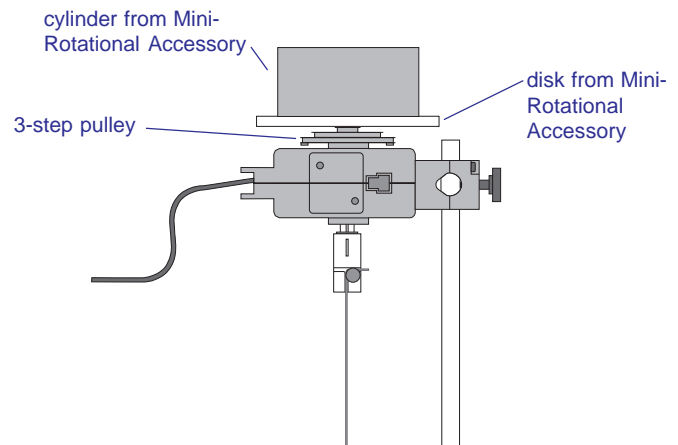

Figure 1.3
1. Place the ring of the Mini-Rotational Accessory on the disk (Figure 1.3).